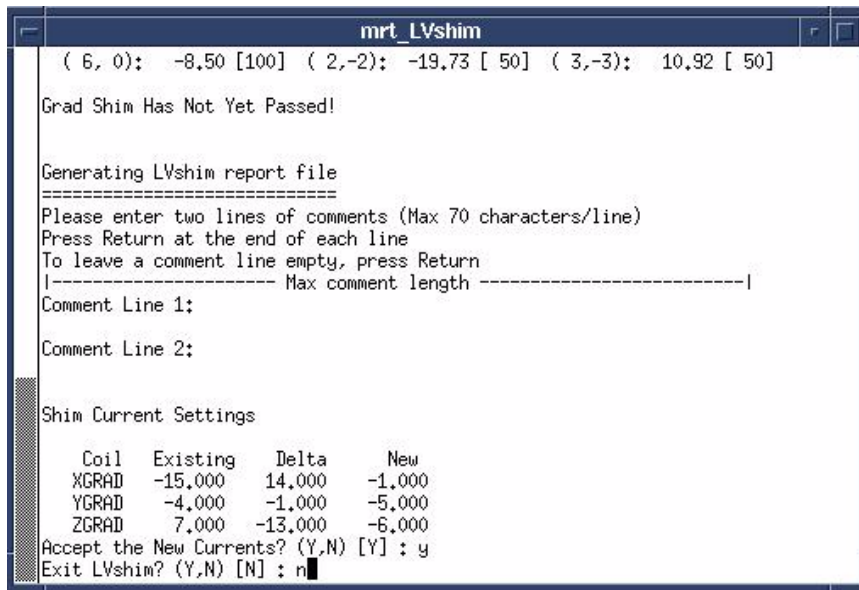

Figure 8
6. The tool will ask “Exit LVShim? “ Type “n” and press the return key. **Figure 8**